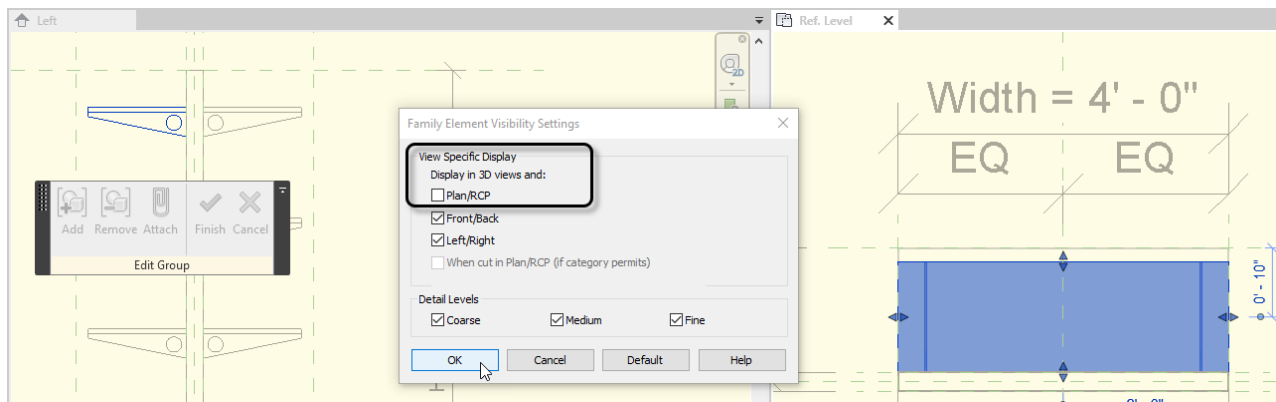

Figure 40
4. In the “Family Element Visibility Settings” dialog, uncheck the Plan/RCP box and then click OK (see Figure 40).